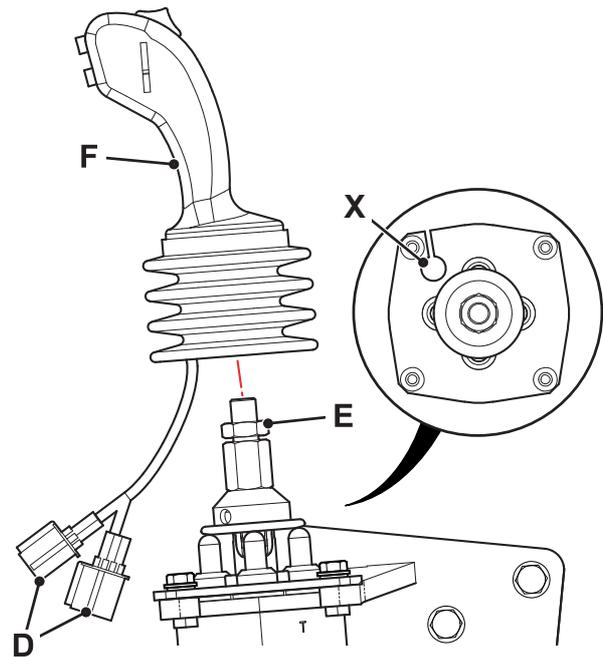

Fig 13.
Put the harness through the slot (X) on the top of the servo control unit. → Fig 13. (□ D-12).